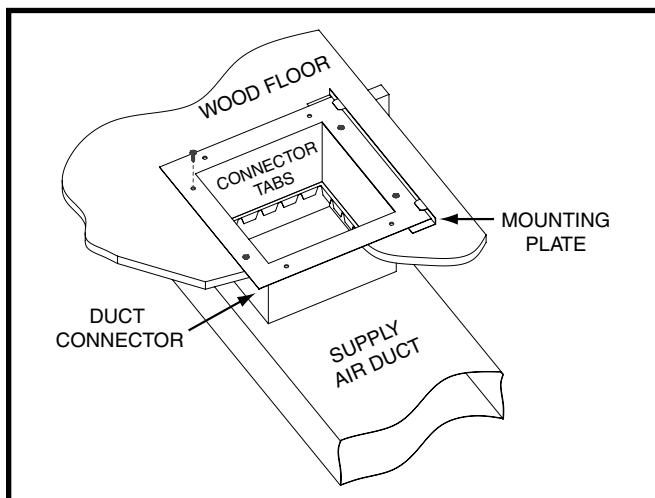

Figure 8. Standard Duct Connector Installed
Duct connectors are recommended for heated air distribution in under-the-floor duct systems. With this system, furnaces may be installed on combustible flooring without a separate sub-base. The furnace rear mounting plate (Figure 8 (page 10)) supplied with the duct connectors is recommended for use with this type of installation.
2. Mark the cut-out area on the supply air duct by tracing around the connector tabs of the duct connector. See Figure 8.
5. Install the mounting plate (Figure 8) under the back side of the duct connector. Align the screw holes in both components.